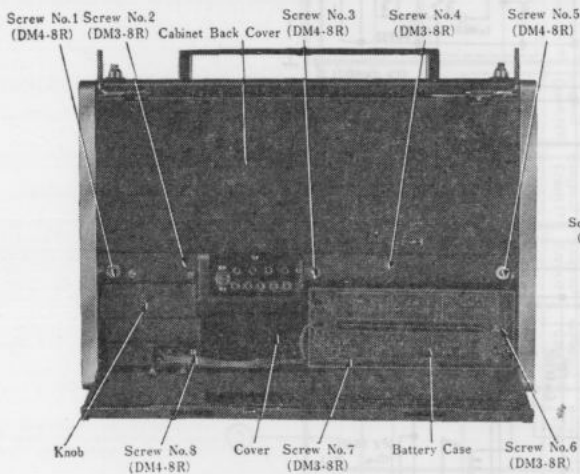

Fig. 1
To Remove Chassis (Refer to Figs. 1 & 2)
2. Remove five (5) control knobs from cabinet.
5. Remove two (2) red cabinet back cover mounting screws (Nos. 2 & 4) as illustrated in Fig. 1.
7. Remove two (2) red battery case mounting screws (Nos. 6 & 7) as illustrated in Fig. 1.
8. Remove four (4) chassis & chassis cover mounting screws (Nos. 1, 3, 5 & 8) as illustrated in Fig. 1.